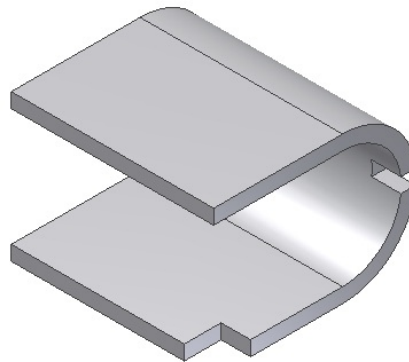

Figure 7-59 Model after creating slots
- g. Suppress the last two features and create the slots and hole on the front face of the base feature, refer to Figure 7-59.
3. Invoke the **Extrude** tool and then create the slots of depth 8 mm using the **Cut** operation, as shown in Figure 7-59.
The orientation of the models in Figures 7-59 and 7-60 has been changed using the ViewCube for clarity and better understanding.